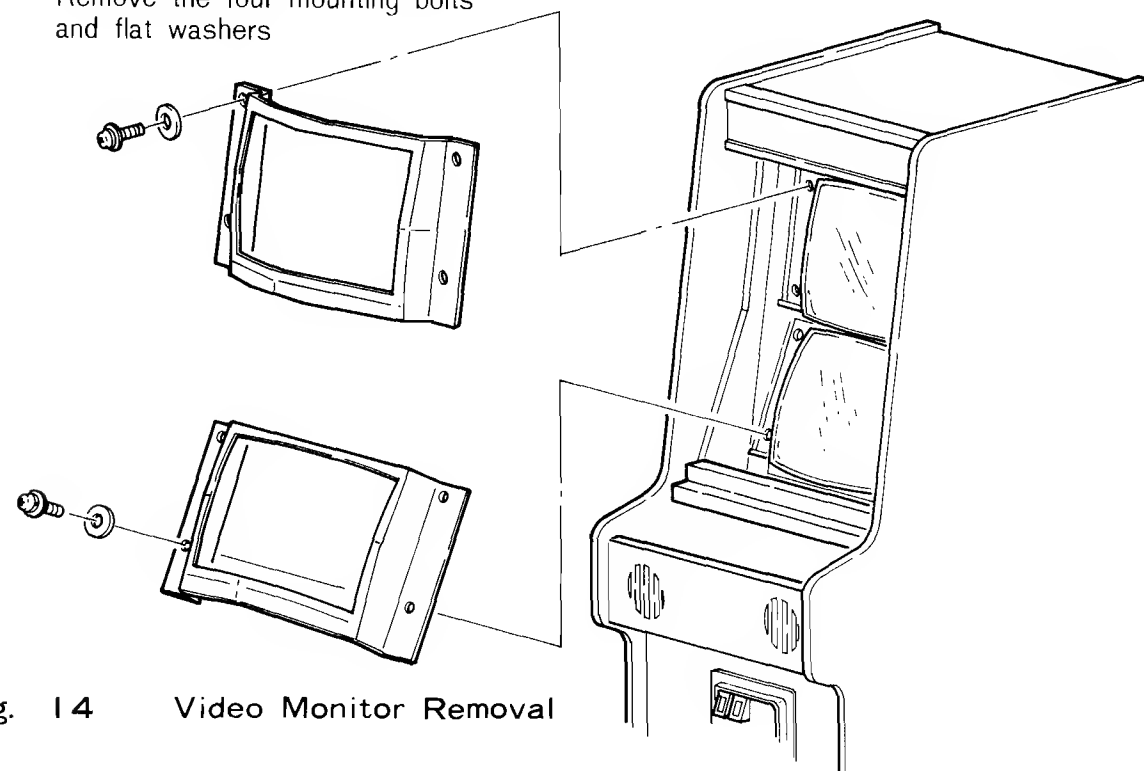

Fig. 14 Video Monitor Removal
- Standing at the front opening of the game, remove the four mounting bolts and flat washers. See Fig. 14.